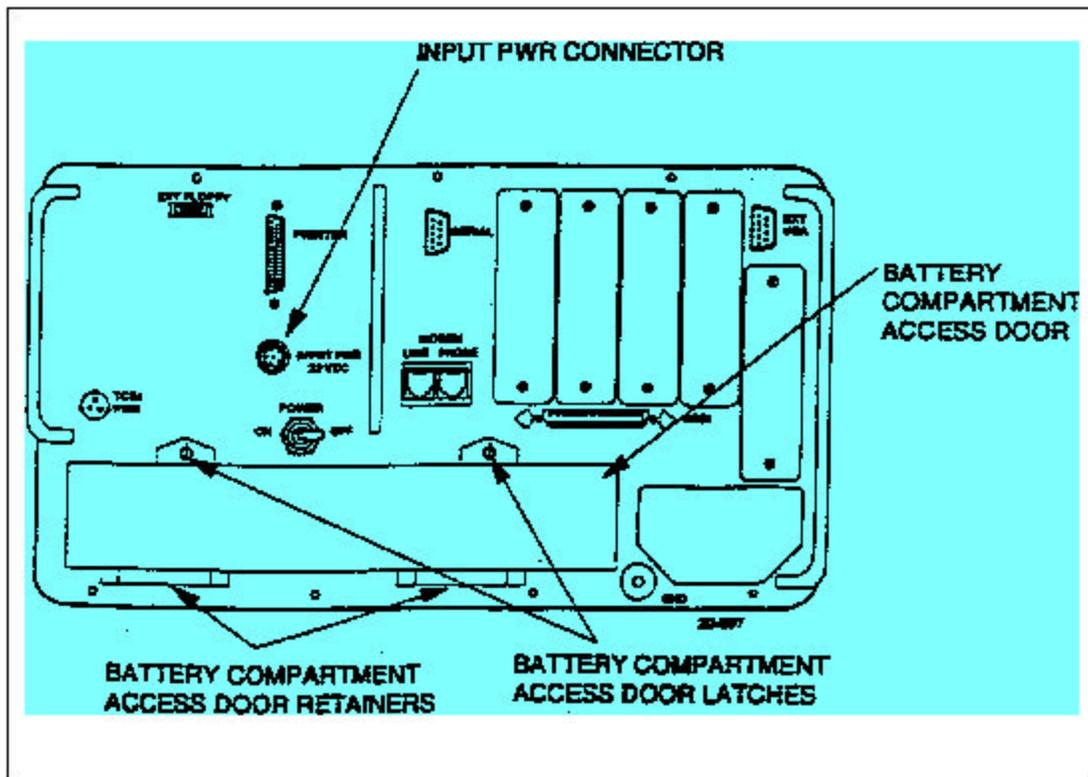

Figure 4: The Back Panel of the V2-LC
1. The male connector on the V2 LC input power cable is plugged in to the DC output connector on the AC/DC converter/charger. The female connector is plugged in to the Input PWR 32 VDC Connector on the rear of the V2 LC. Connect the female plug of the power cord into the male socket of the AC/DC converter/charger (See Fig 4.)